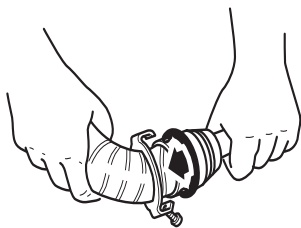

Fig. 27
- ▶ Bend the exhaust duct according to the installation situation. The end of the duct must be straight for at least 2 cm and must not be bent in this area. The duct bender AE (part no. 30030-33000), which is available as an accessory, can be used for this purpose to bend the exhaust duct (Fig. 27).